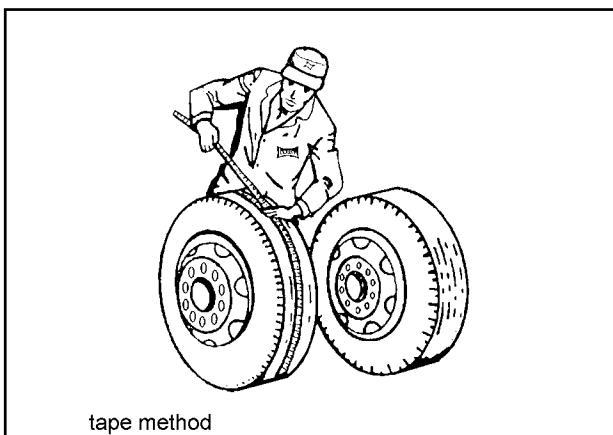

Figure 4-10 Tape Measuring Method
- a. **Tape Measuring Method.**: Measure around each tire on the tread surface. A maximum difference of 3/4" is allowed between the two mating tires of a dual (**See Figure 4-10**).